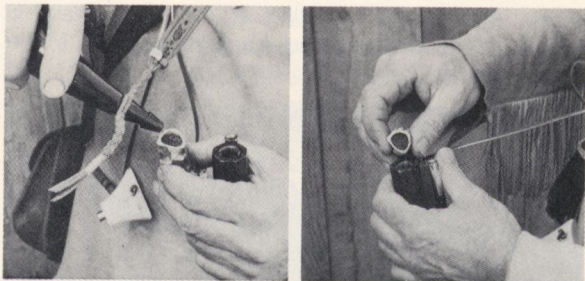

Figure 6
5. Fill a powder measure that has been pre-set to the desired charge with a proper powder from a can or powder horn and pour it down the barrel. It's very easy to pack the measure one time and fill it lightly the next. You will achieve the best accuracy by filling the powder measure the same way each time, and by being certain that all of the powder enters the muzzle. **UNDER NO CIRCUMSTANCES POUR POWDER DIRECTLY FROM POWDER HORN OR CAN INTO BORE. ALWAYS USE A POWDER MEASURE.** (Figure 6)